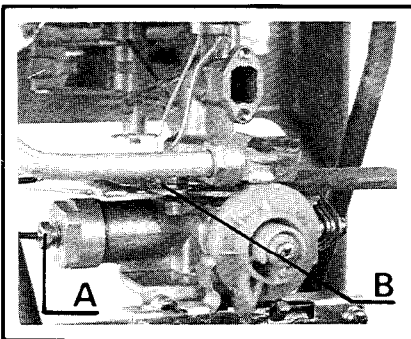

Fig. 5
- Unscrew the thermocouple nut A from the thermo-electric valve and remove it from the wire (fig. 5).
- To replace, remove the thermocouple nut A (fig. 5).